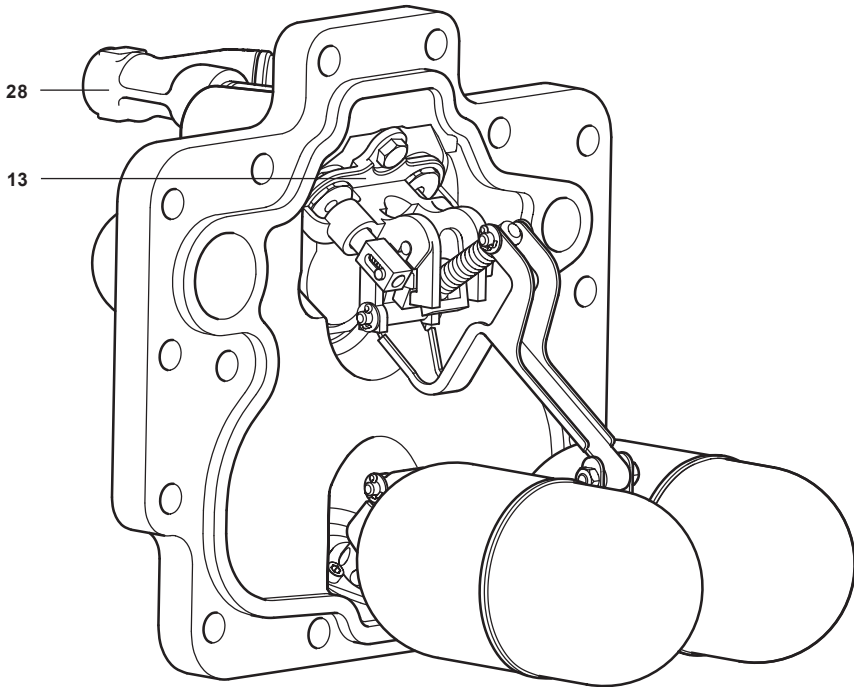

Fig. 4 APT14 shown
**Note:** The valve gear has been designed to be adjustment-free, simplifying the fitting of new parts. If after assembly the mechanism does not operate correctly, check all the parts are assembled and aligned as per Figure 4.
26. Carefully reconnect the motive steam supply and the exhaust lines to the connections marked (S) and (E). The APT14, APT14HC or APT14SHC is now ready to recommission.
27. Make sure that the Spirax Sarco motive supply strainer (with 100 mesh screen) is reinstated to the motive supply connection (item 28).